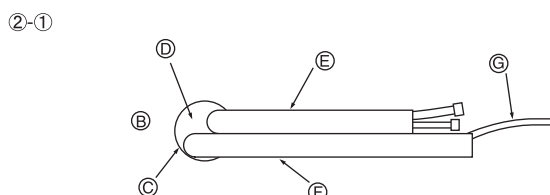

Fig. 3-5
② Left and left rear piping
- ②-① For left rear piping, pull the pipes out the hole to determine their correct length, then bend them. The indoor unit should hang on the wall mounting fixture. (Fig. 3-5)